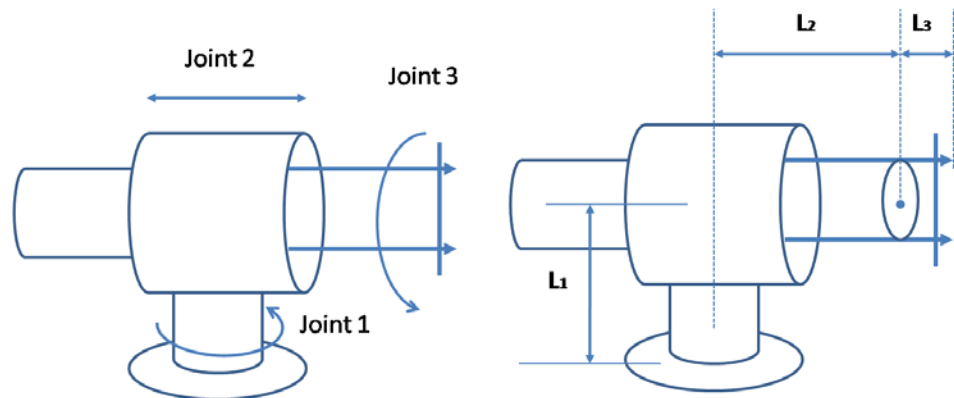

Figure Q2[b]
- [b] Figure Q2[b](i) shows a robot having three degrees of freedom with two revolute joint and one linear joint. Figure Q2[b](ii) shows the manipulator with a linear joint at minimum extension where $L_1 = 400$ mm, $L_2 = 600$ mm and $L_3 = 200$ mm. Produce a mathematical model of the robot kinematics by determining its link parameters and deriving its link transformation